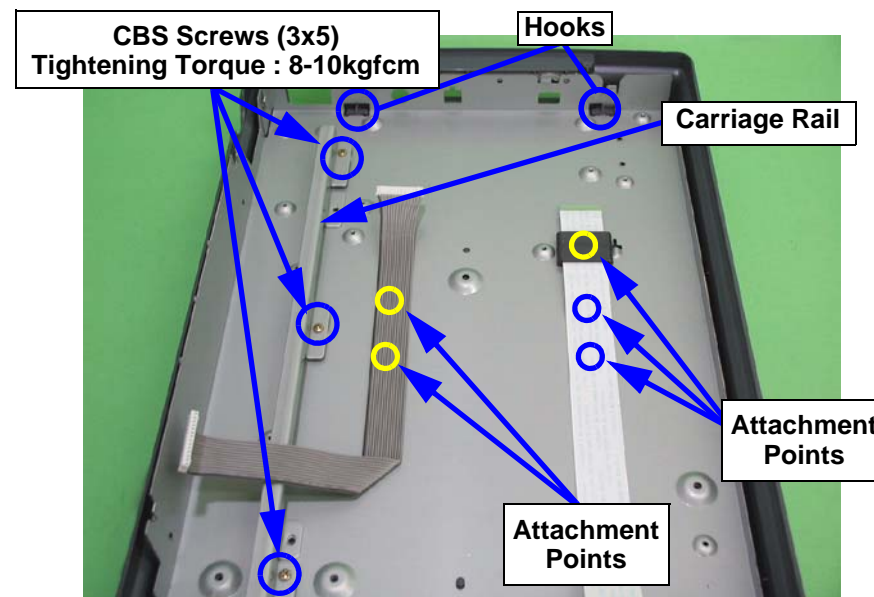

Figure 4-36. Base Frame Removal
■ Attach the cable that connects the power supply circuit board and the main circuit board, the white FFC that connects the carriage unit and the main circuit board and the ferrite core to the base frame with double-sided tape. (See Figure 4-36)